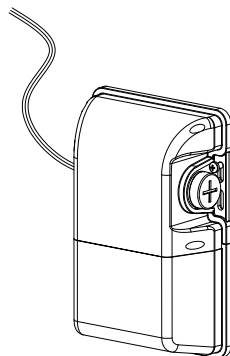

Fig 2
2. Connect the wires as shown below. (Fig 2 & 3)